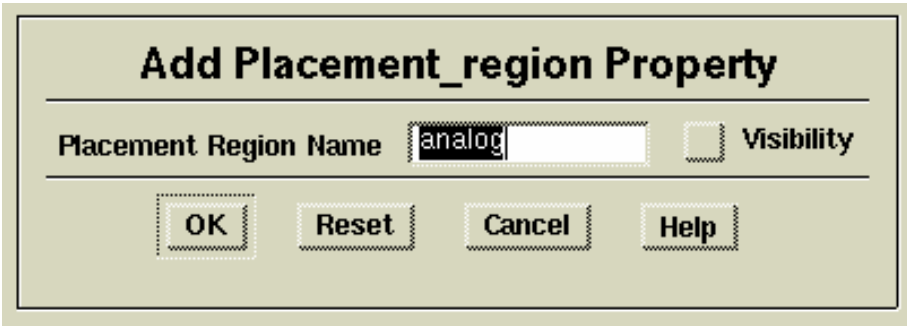

Figure 2-36. Add Placement_region Property Dialog Box
3. Enter *analog* in the Placement Region Name field in the dialog box, shown in Figure 2-36. If necessary, click on the **Visibility** button to unhighlight it to indicate that this property should not be visible on the schematic, then **OK** the dialog box.